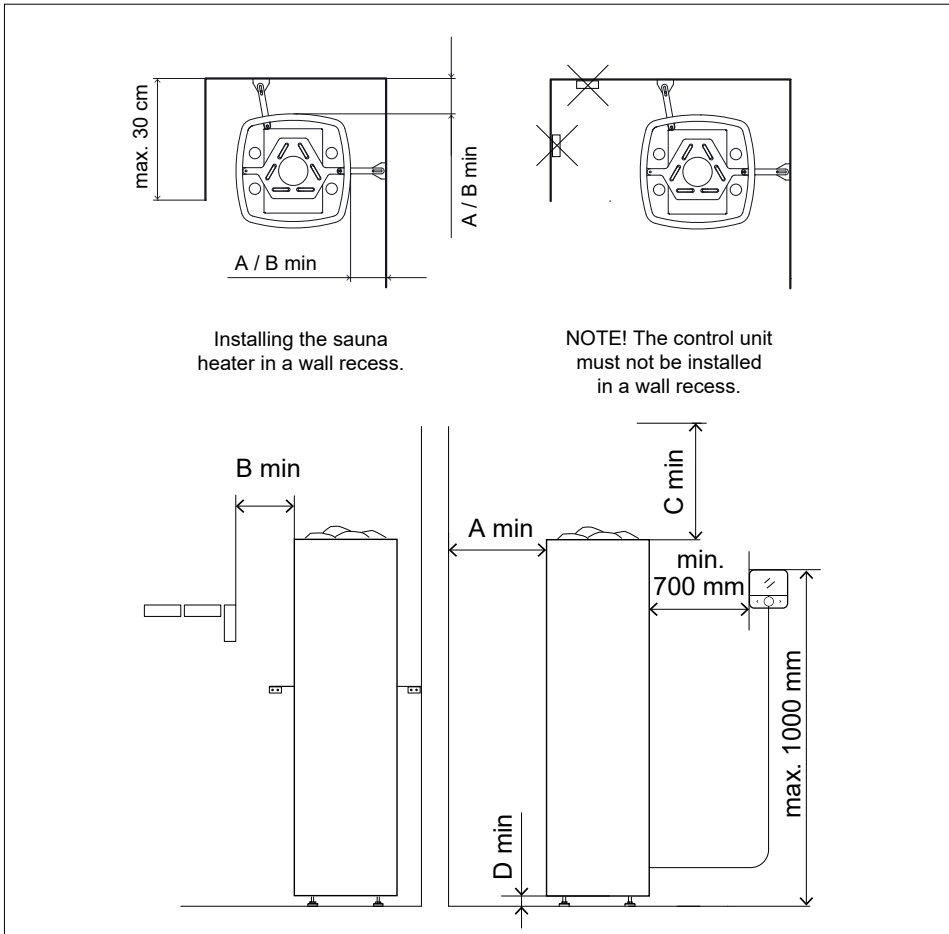

Figure 6.1-1: Minimum safety distances
- The heater may also be installed in a wall recess, in which case the safety distances as shown in Figure 6.1-1 must be observed.
- The control unit must not be installed in a location where the temperature exceeds 80°C maximum temperature. If the control unit is installed in the steam room, the installation location must be at least the minimum protection distance (0.7 m) from the heater and at most one meter (1 m) above the floor (Figure 6.1-1). Power supply cables and the control unit's cable should not be installed next to each other to avoid interference.
- In the installation of the sauna heater, the specified safety distances must be taken into account (Figure 6.1-1 and Table 6.1-1).